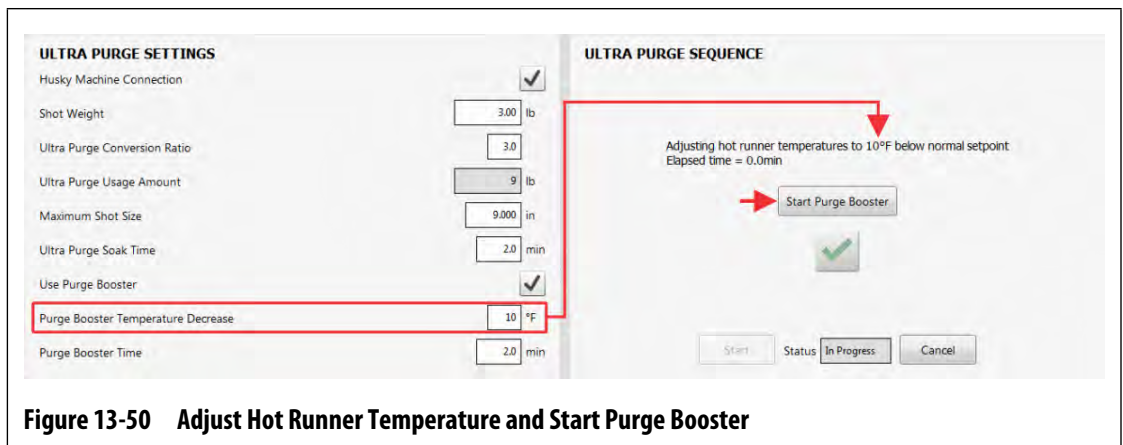

Figure 13-50 Adjust Hot Runner Temperature and Start Purge Booster
- Adjust the hot runner temperature to $x^{\circ}\text{F}$ ($x^{\circ}\text{C}$) below the normal setpoint (refer to Figure 13-50).